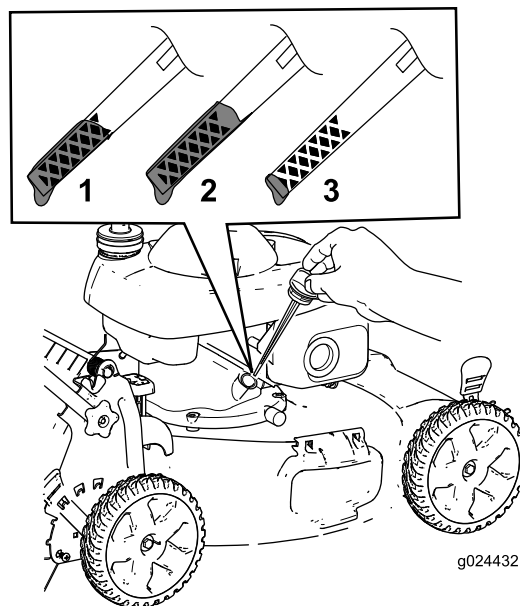

Figure 22
3. Remove the dipstick (Figure 22).
10. Read the oil level on the dipstick (Figure 22).